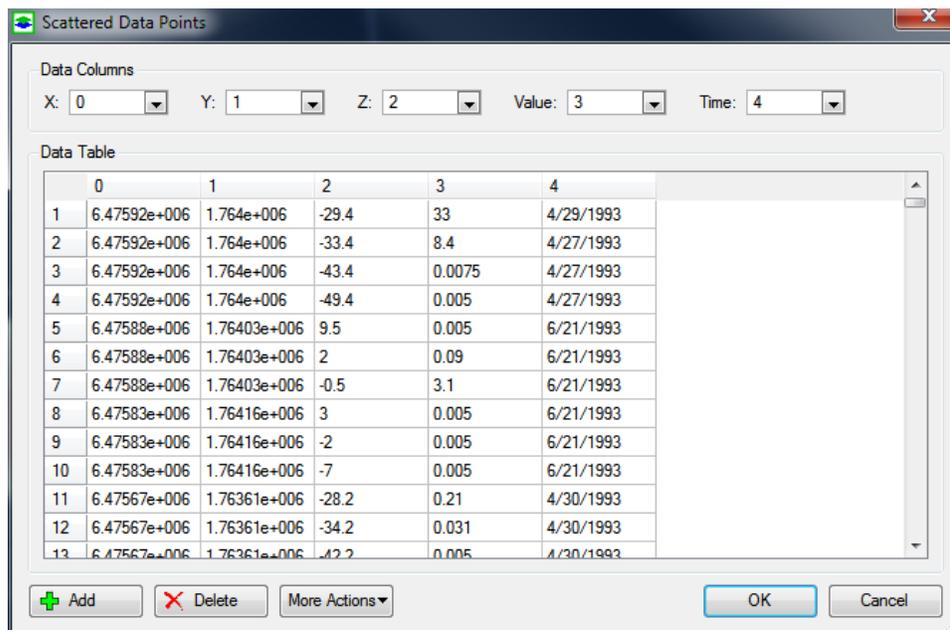

Figure 2.21. The Scattered Data Points dialog box for Contour Maps
2. Select *Create New Object* from the popup menu to display the *Scattered Data Points* dialog box (Figure 2.21). The options of this dialog are identical as those of Point Map (see page 34), with the exception of *Data Columns*:
- *Edit Data*: Click the  button to open the *Scattered Data Points* dialog box (Figure 2.21) where you can make changes to the data points.
- If the *Time* dropdown box in the *Scattered Data Points* dialog box (Figure 2.21) is set to "none", the *Time Control* group is deactivated and a *static* contour map is created based on all data given in the *Data Table* of the *Contour Map Data* dialog box.
2. Select *Create New Object* from the popup menu to display the *Scattered Data Points* dialog box (Figure 2.21). The options of this dialog are identical as those of Point Map (see page 34, with the exception of *Data Columns*):
- *Edit Data:* Click the  button to open the *Scattered Data Points* dialog box (Figure 2.21) where you can make changes to the scatter data set.